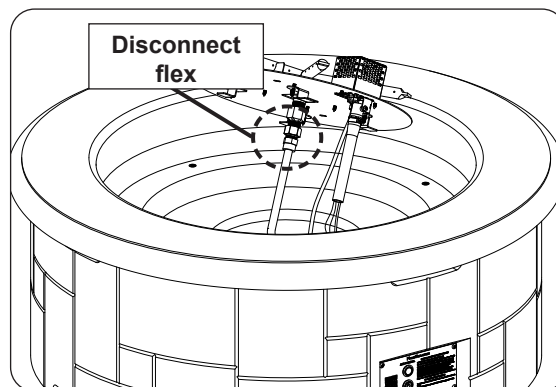

Fig. 27-3 Disconnect flex connector
3. Disconnect flex connector attached to the burner assembly (see Fig. 27-3). Store the burner in a safe location.